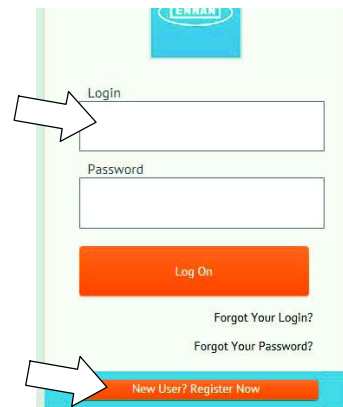

FIG. 6
2. Log on to the “My Tennant” website or register as a new user. (Fig. 6)